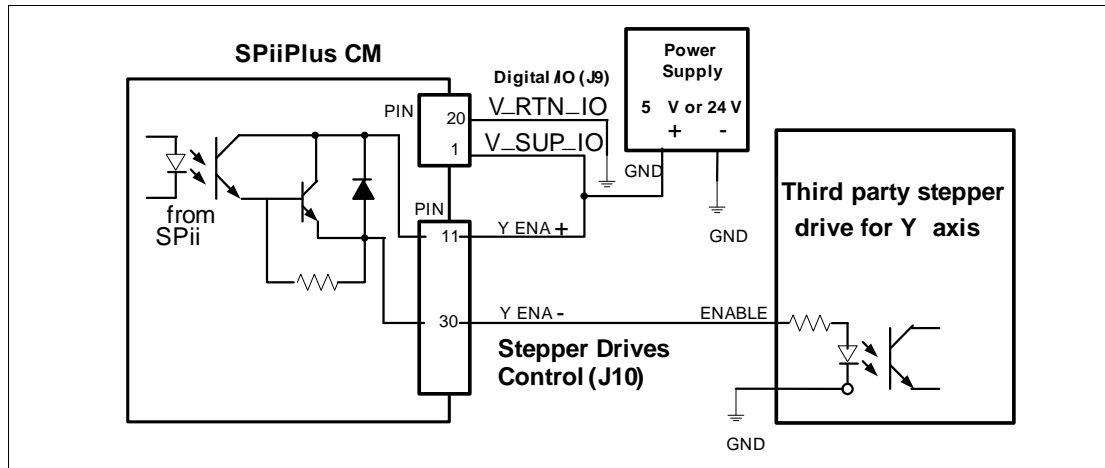

Figure 29 Connection To Stepper Drive With Enabled Source Output (Y axis)
- ❑ **Figure 29** is an example of a **source** type enable connection to a stepper drive. When the drive receives external 5V or 24V, it is enabled.